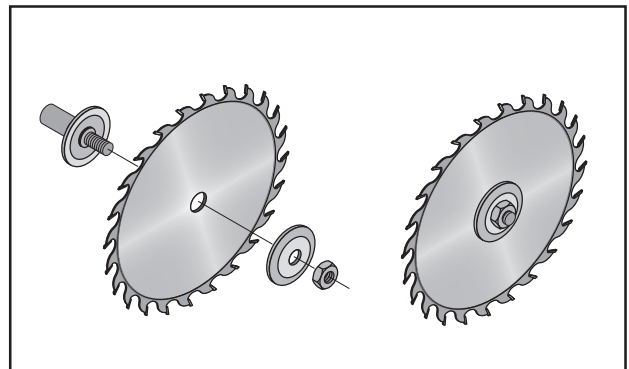

Figure 62. Example of correct blade direction and blade components installation order.
4. Slide the blade over the arbor with the teeth facing the front of the saw, as shown in Figure 62.